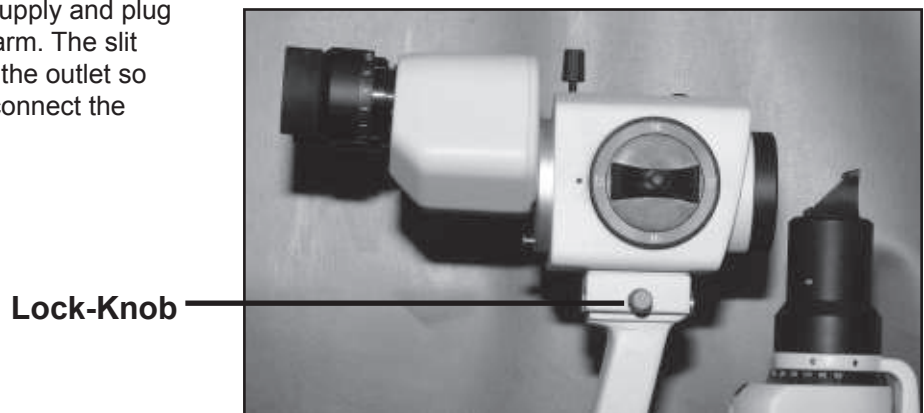

Figure 2: Securing the Microscope
7. Mount the microscope head on the microscope arm by sliding it into position, making sure it is up against the stop. Then, tighten lock-knob located on the right side of the microscope. (See Figure 2)